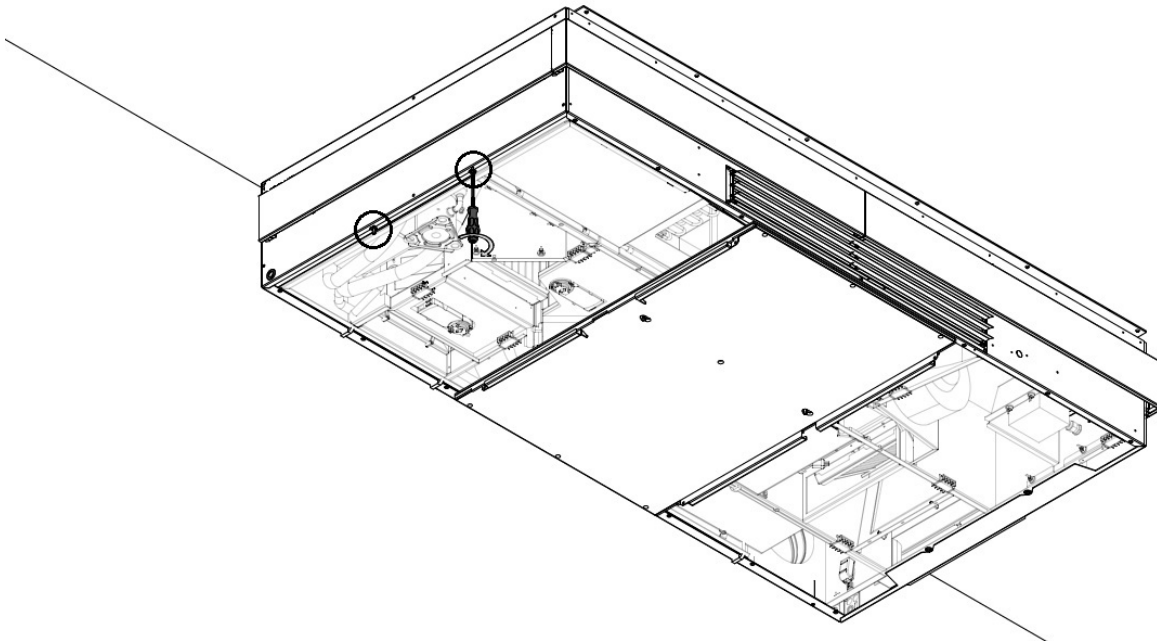

Figure 37: Screw two long bolts onto the left-hand side frame
5. Screw two of the long bolts into the frame on the left-hand side, see Figure 37. Remember to leave at least 10 mm. between the frame and the bolt head for the keyhole.